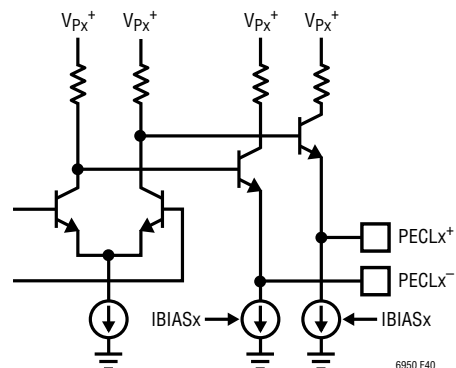

Figure 40. Simplified PECLx Output Schematic
1.4GHz. The output driver provides considerable flexibility for biasing and termination. Internal biasing for the output emitter followers may be selected by programming IBIASx to 1 for the appropriate output driver block. See Figure 40 for a simplified schematic.